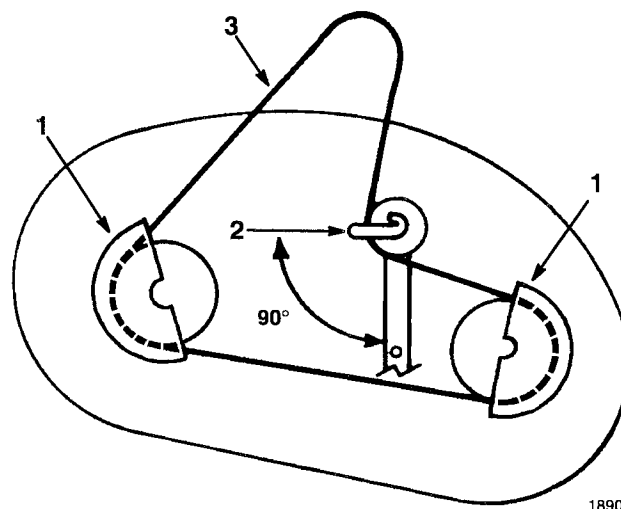

Figure 48
2. Remove the pulley cover mounting screws and pulley covers from both blade pulleys (Fig. 48).
3. Loosen, but do not remove the bolt and nut securing the idler pulley and belt guide (Fig. 48).
2. Position the idler pulley belt guide so it points toward the left, 90° to the idler arm (Fig. 48). Tighten the mounting bolt and locknut securing the idler pulley and belt guide.
3. Install the left and right pulley covers with the mounting screws (Fig. 48).